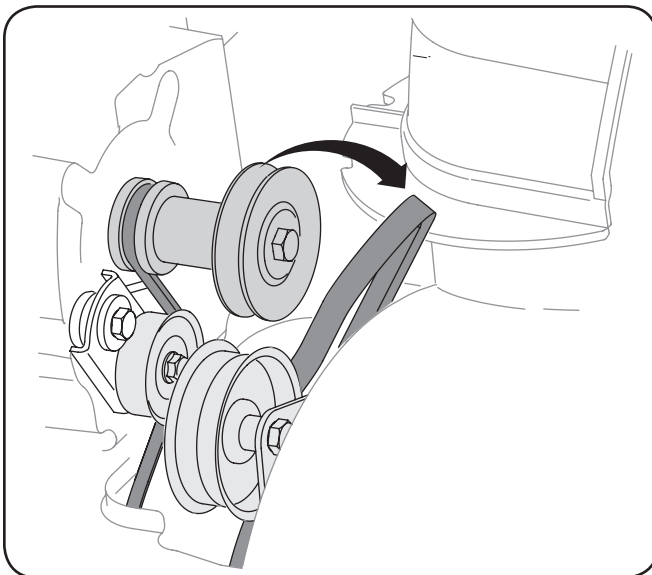

Figure 7-2
3. Roll the auger belt off the engine pulley. See Figure 7-2.